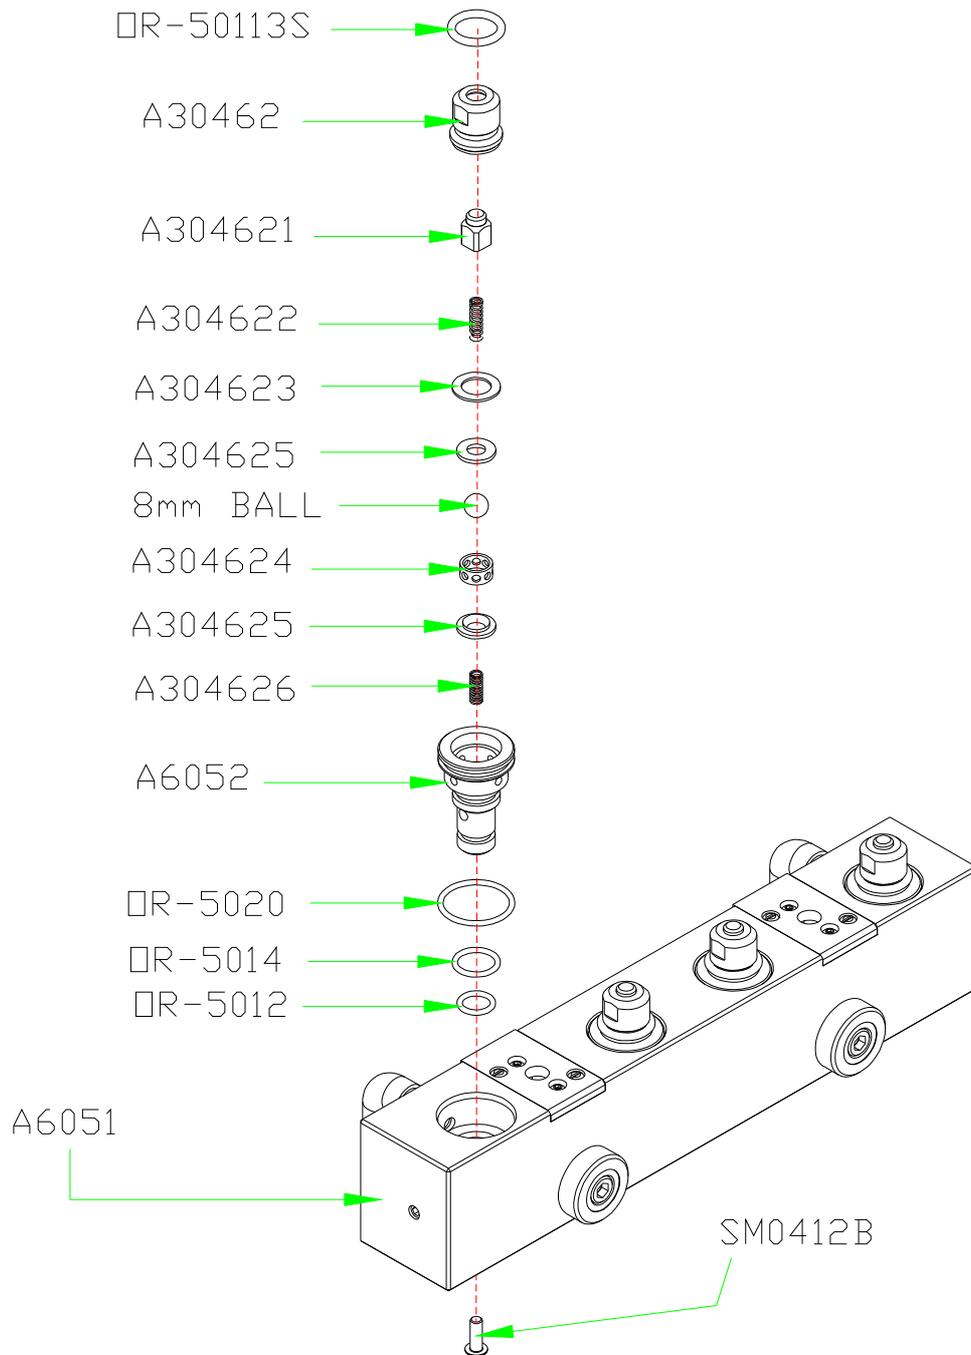

Figure 26: Components to replace in Selectatec A605
The Selectatec A605 has 4 identical sub-assemblies along its body; therefore they contain same components that need replacement. Figure 26 shows an exploded view of one of these subassemblies. Using the A605-99 service kit, the individual springs, washers and O-rings inside the Selectatec actuator housing can be replaced. This is a delicate procedure, described below. Ulco recommends that service providers purchase the A605-9 kit which contains four complete actuator assemblies which have been tested by Ulco and may be simply screwed into the backbar. This will reduce the time for service and the possibility of introducing leaks to the system. Old actuator housings can then be serviced off-line or returned to Ulco for refurbishment.
- Once A30462 is out, proceed to unscrew SM01412B by using an Allen key 2.5mm. This will allow A6052 ballsert housing to be pulled out.
2. Reassembly of components on A605 Selectatec. Refer to Figure 26. The reassembly of the subassembly into the selectatec body A6051 is a very delicate operation, because any misalignment of the springs or ball will make the selectatec to leak. Therefore follow these instructions step by step.